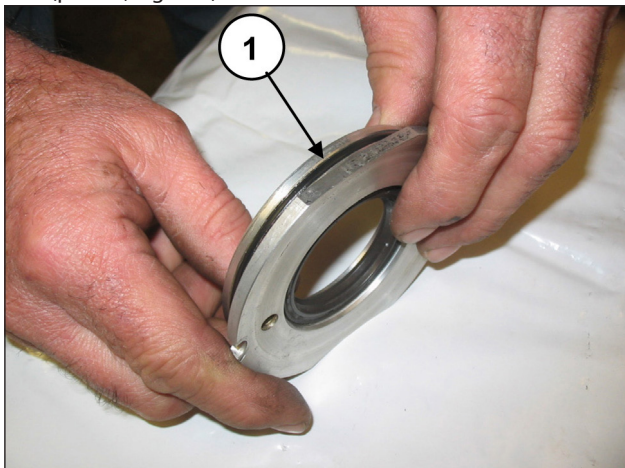
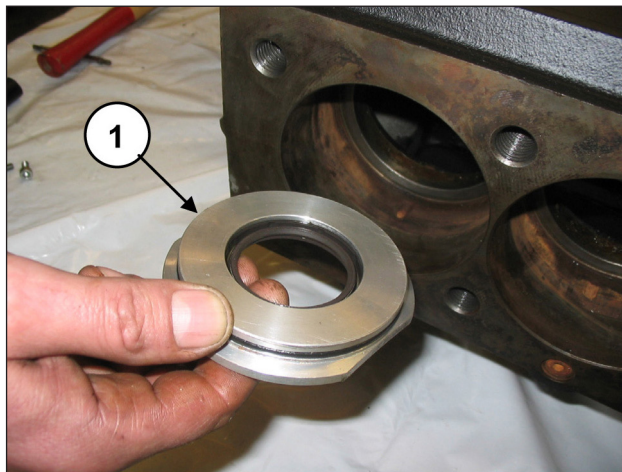

Fig. 130
Fig. 131
Position the O-ring (pos. ①, Fig. 130) in the seat of the oil seal cover and insert the assembly mounted in the casing into the seat (pos. ①, Fig. 131).